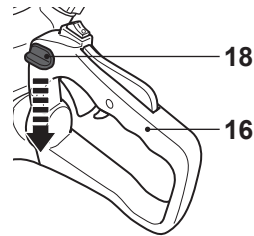

Fig. 3
- > Press the unlock button (18) down and hold it in its lower position (Fig. 3).